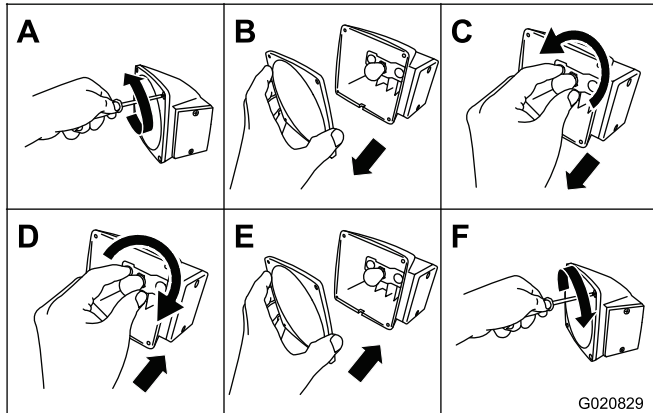

Figure 62
1. Use a screwdriver to remove the 4 screws from the large square lens on the light (Figure 62).
2. Remove the lens (Figure 62).
3. Push and twist the bulb counterclockwise to remove it from the socket (Figure 62).
4. Push a new 1157 bulb into the socket and then twist it clockwise (Figure 62).
5. Install the lens and the 4 screws (Figure 62).